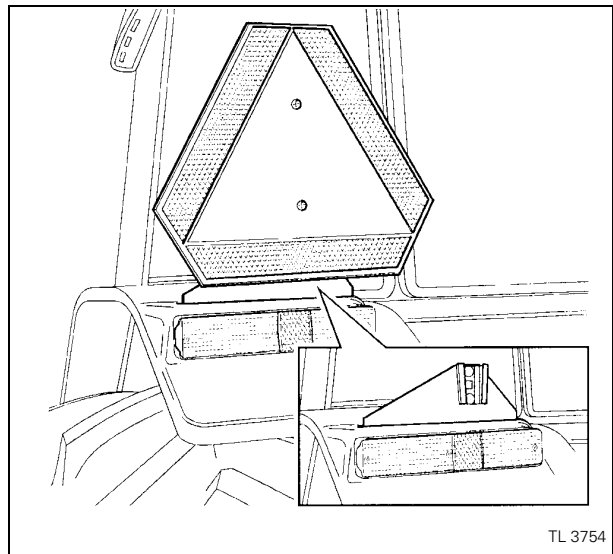

Fig. 24
- Make sure tractor and equipment are equipped with Slow Moving Vehicle (SMV) (Fig. 24) signs and other marking aids recommended for improved visibility, or beacon (Fig. 25) if the law requires them.